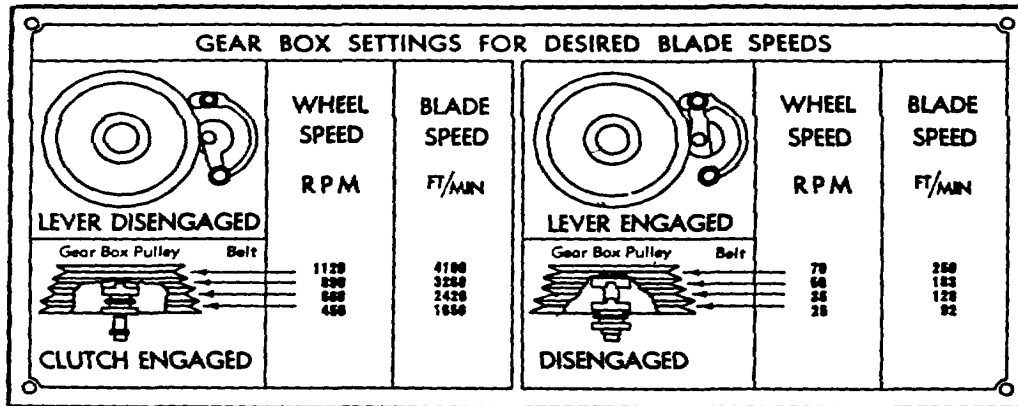

Figure 3-7. Speed Change Diagram
3-64. GENERAL. This machine is an eight speed band saw so arranged as to have two ranges of speeds, high and low. The changing from one range to the other is accomplished with a two-speed gear box of the 'backgear' type. The various settings of the gear box are shown in figure 3-7.
b. Slide jaw clutch (4) IN to ENGAGE the clutch. This gives a direct drive from pulley to band saw wheel. It may be necessary to turn pulley by hand a little to line up clutch jaws. Be sure to slide clutch ALL THE WAY in to fully engage jaws.
c. Change the V-belt (3) to the proper set of grooves for the speed desired as per diagram (figure 3-7). When shifting V-belts, it is easier to shift OUT OF LARGER diameter pulley FIRST, then shift smaller pulley and shift in TO LARGER pulley LAST.
b. Change the V-belt (3) to the proper set of grooves for the speed desired as per diagram (figure 3-7).